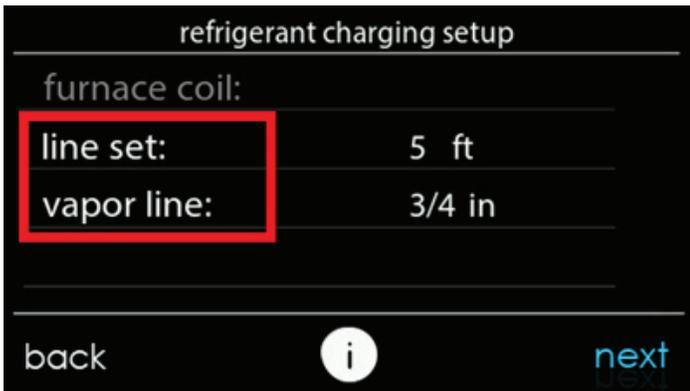
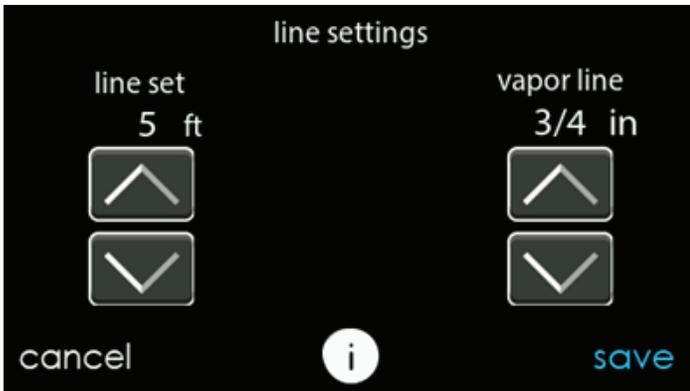

Fig. 17 – Select Line Set Length & Vapor Line Diameter A20035
Fig. 18 – Adjust Line Set Length & Vapor Line Diameter that is Installed A20036
- Press the text "line set" and "vapor line" to choose line set length and vapor line diameter (see Fig. 17 and Fig. 18). After complete, press "next" to advance to next screen.